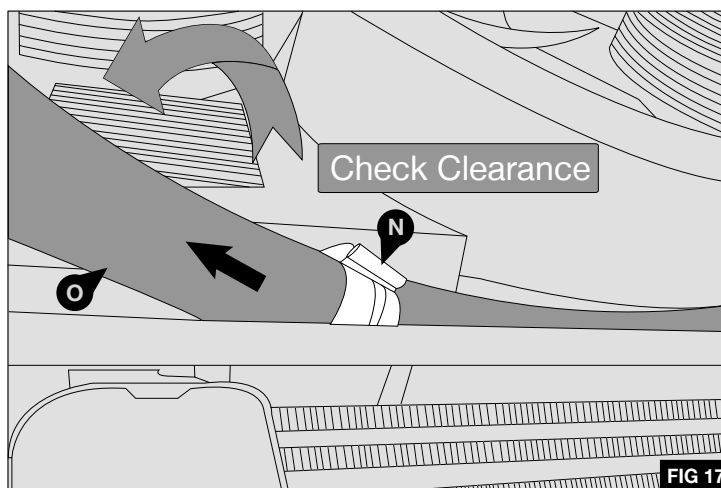

FIG 17
2. If necessary, unclip the plastic clip (N) from the radiator hose (O) then move the radiator hose (O) in the direction shown to allow for clearance against the compressor assembly - Fig 17
3. Re attach the clip (N) with the hose in the new position - Fig 17